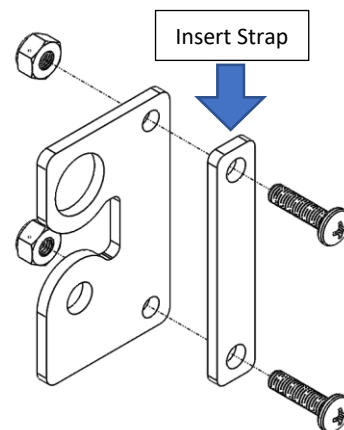

Figure 10: Strap Clamp Assembly
26. Install the door strap onto the hard stop bracket using the strap clamp to secure it. Feed the strap clamp through the largest eyelet in the strap and bolt it to the hard stop bracket. Direct the strap towards the lower hinge when tightening down the clamp. Reference Figure 10 and 11.